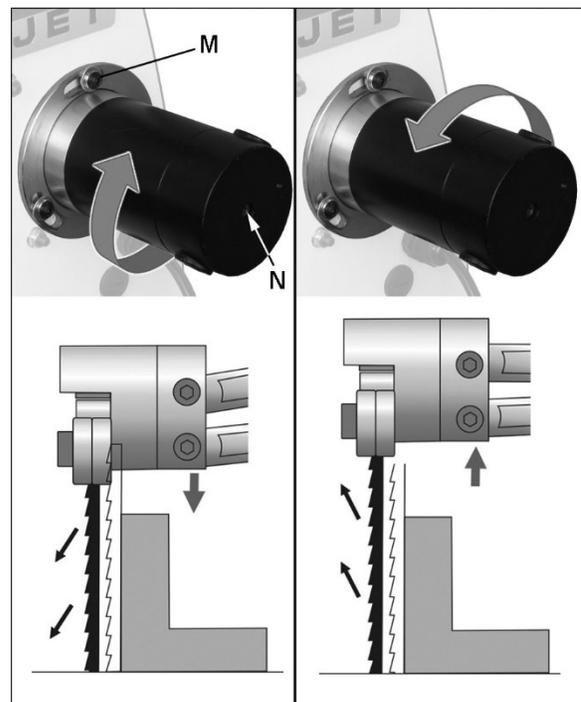

Figure 9-11: blade oscillation
4. Loosen screws on motor flange (M, Figure 9-11) with 4mm hex wrench. *Only loosen screws enough to allow motor rotation.*